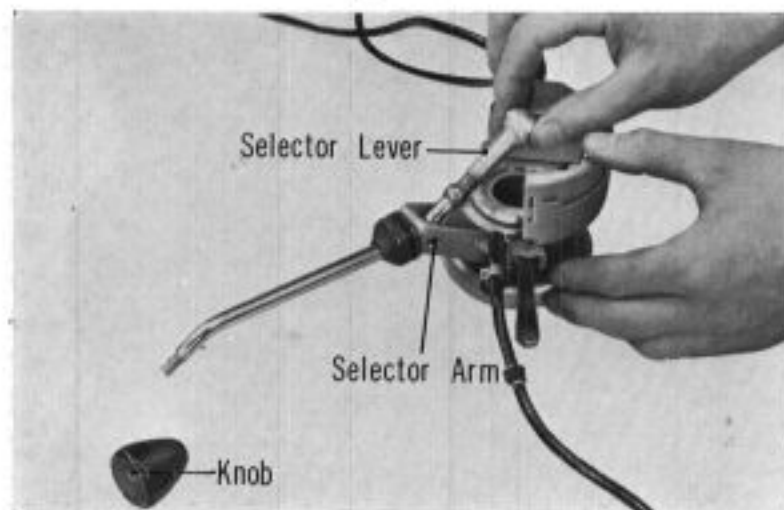

Fig. 7B-251
23. Remove the selector lever from the selector body.(Fig. 7B-251)